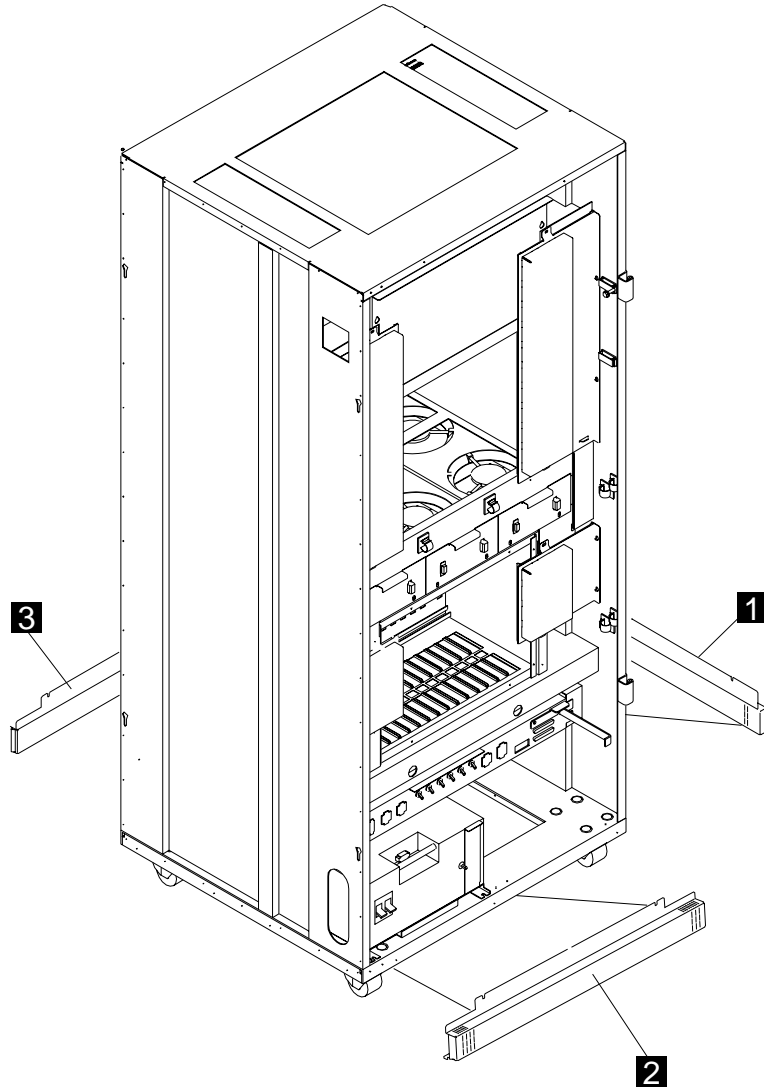

Figure 9-1. 3746-900 Ground Brackets (Front View)
- Step 1. ____ Install the front ground plate **2** PN 63F2606 and right ground plate **1** PN 63F2608 using screws PN 2665527 (refer to Figure 9-1).